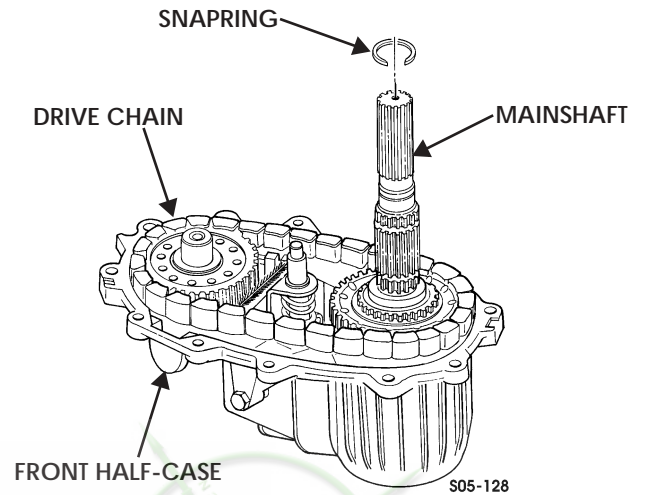

Figure 5-181: Drive Chain
27. Position drive chain over mainshaft and driven gear (Figure 5-181).